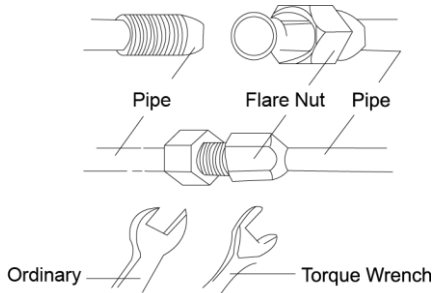

Fig.4
- 1) Refer to Fig.4 for the moments of torque for tightening screws.
- 3) After that, tighten the screw by the torque wrench unit it clatters (as shown in Fig.4).